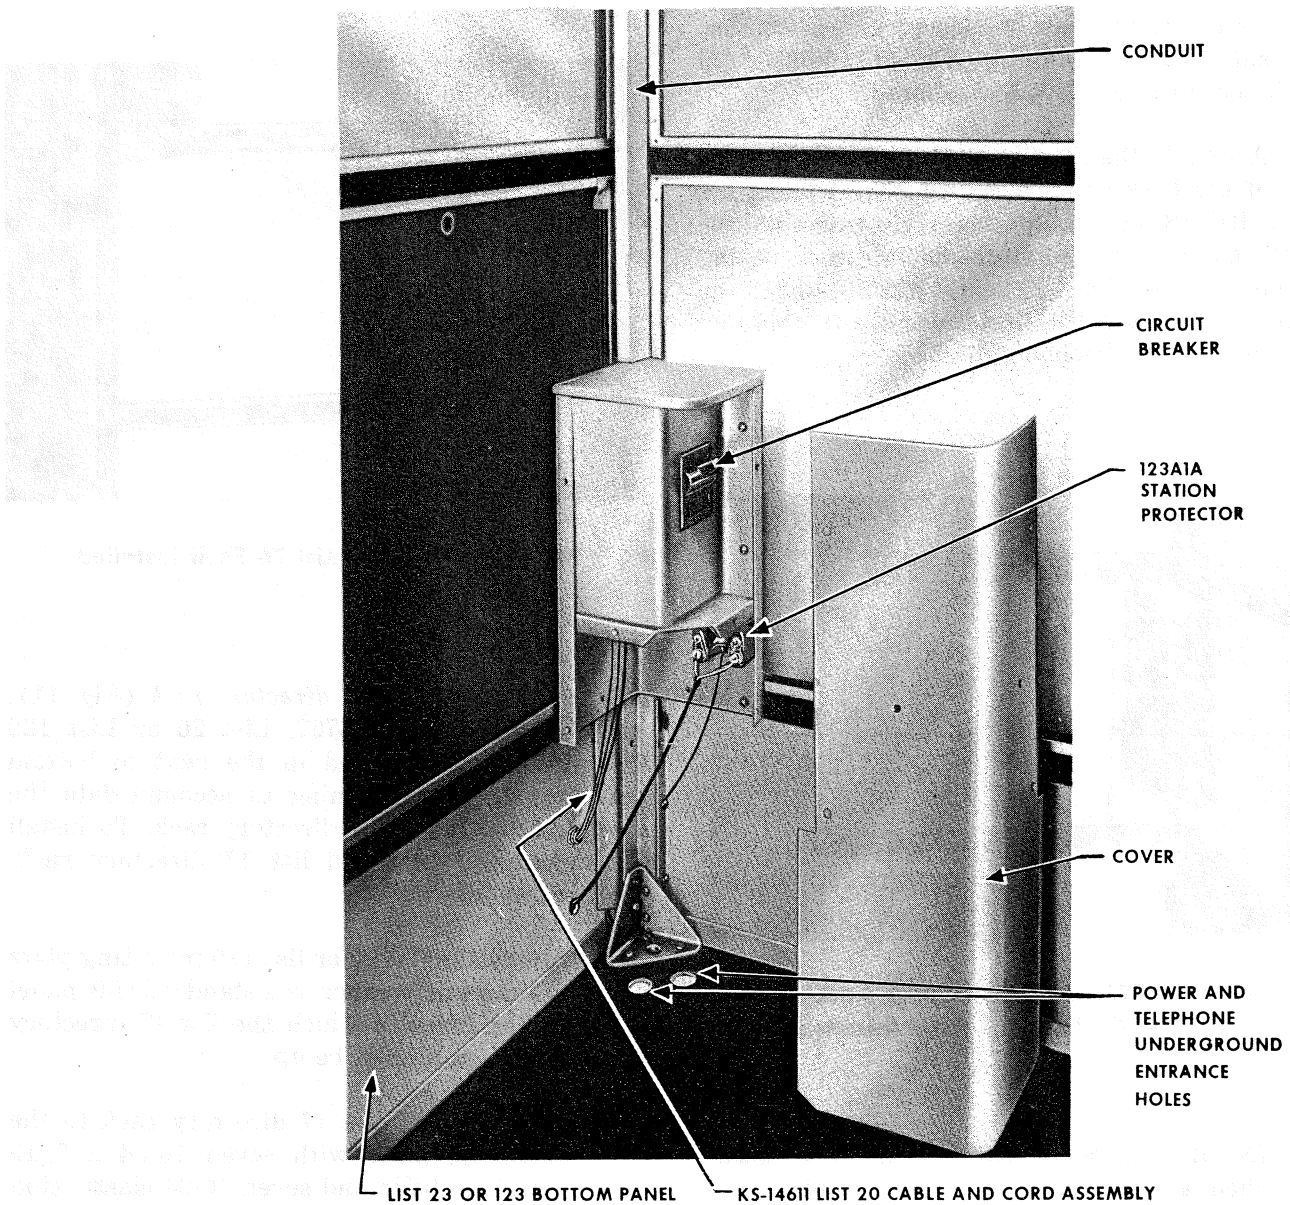

Fig. 8 - KS-14611, List 20 Cable and Cord Assembly (Power Entrance at Bottom of Booth)
6.05 *Outdoor installation*, Fig. 8, power may be brought into an outdoor booth from the top